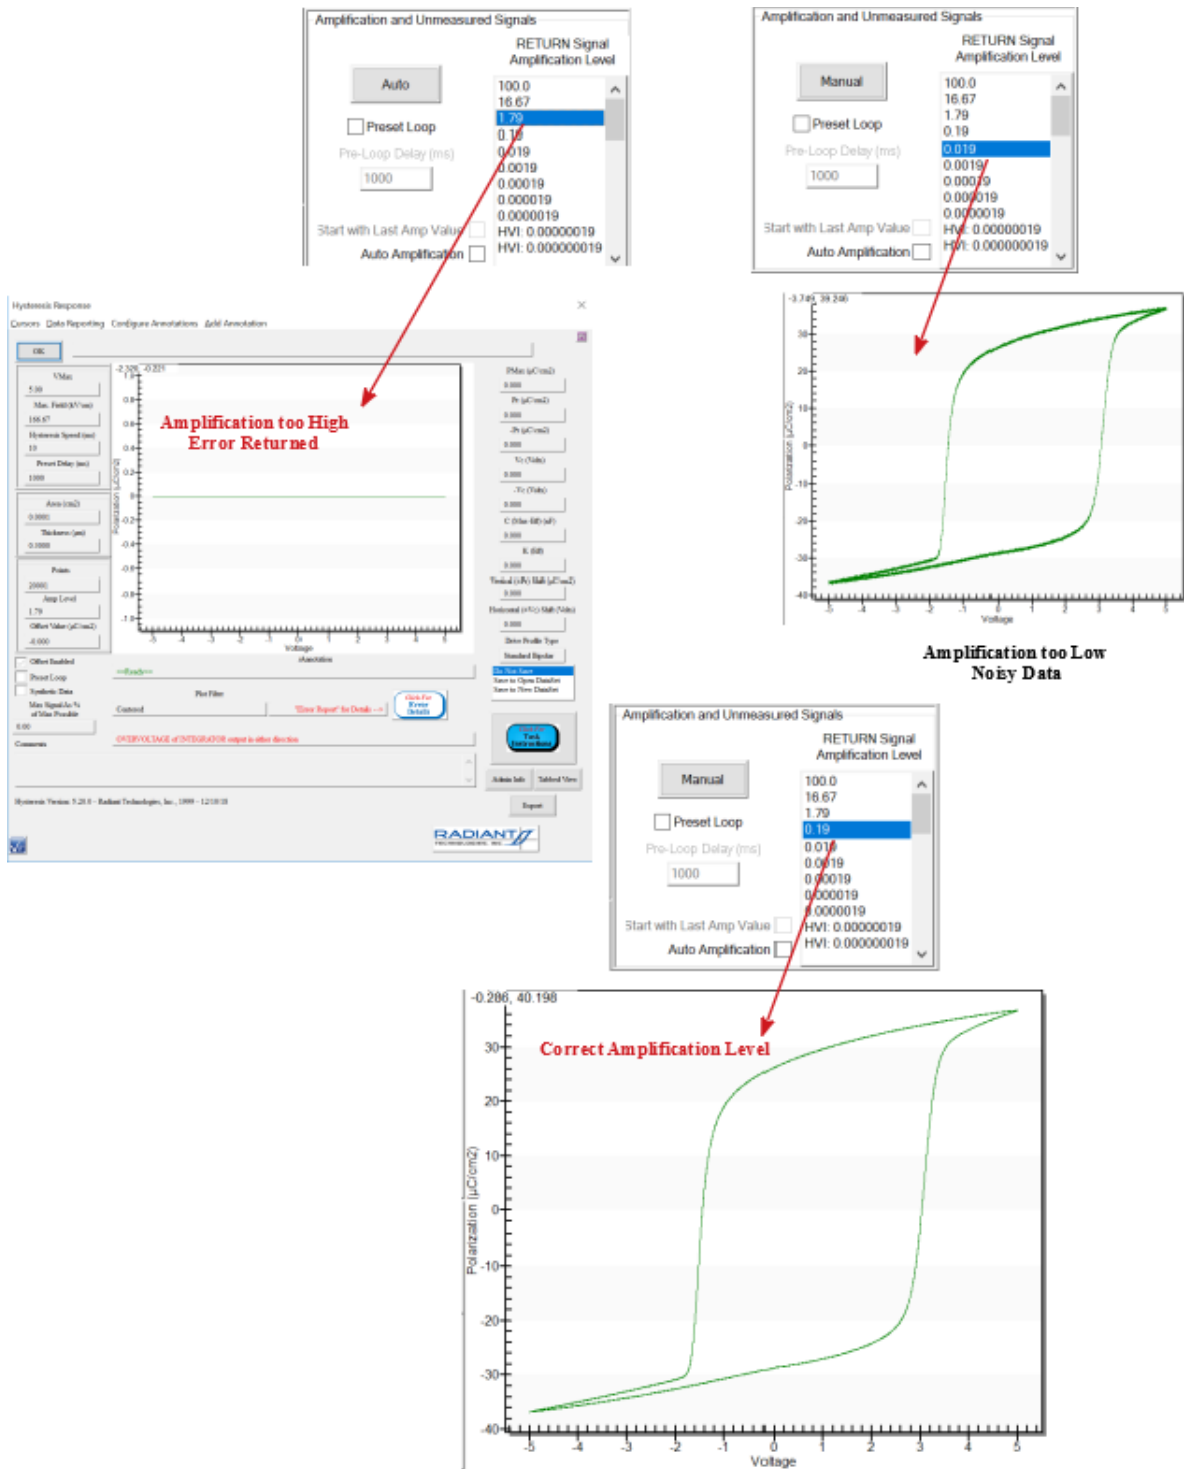

Figure 15 - Results of Manual Amplification Settings.
1. Manual Amplification: *Auto Amplification* is unchecked and an appropriate *RETURN Signal Amplification Level* is selected. In this option a single measurement will be made at the amplification level selected by the user and the data returned regardless of the quality. An improperly-selected amplification level may show data that are saturated (level too high) or very noisy (level too low). If the amplification level is too far out-of-range, the measurement may return an error. Note that a saturated measurement could not be made for **Figure 15** without generating an error.